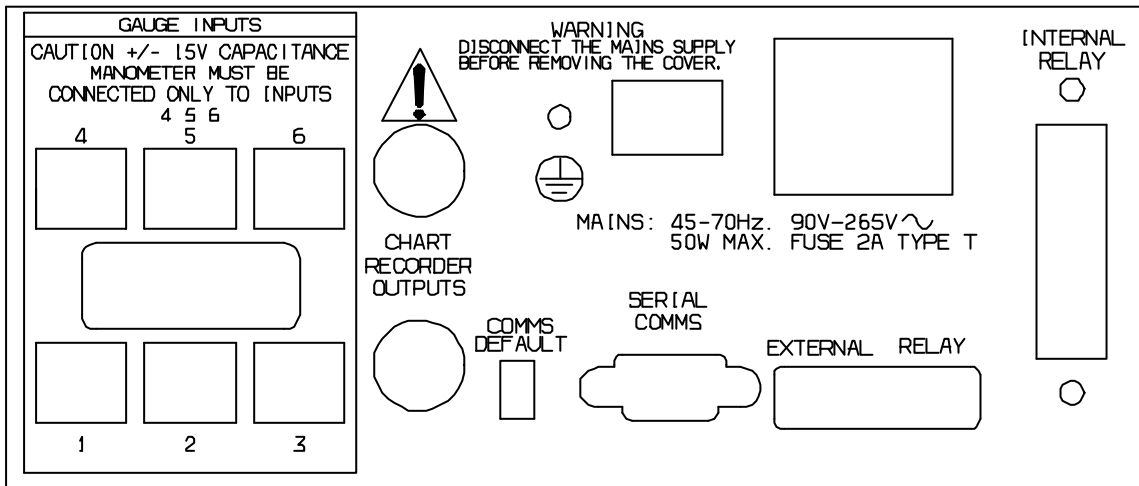

Figure 1b - Rear panel of the AGC (Capacitance Manometer version)
*Note: The caution label on Figure 1b has been modified to incorporate the Capacitance Manometer version only.*